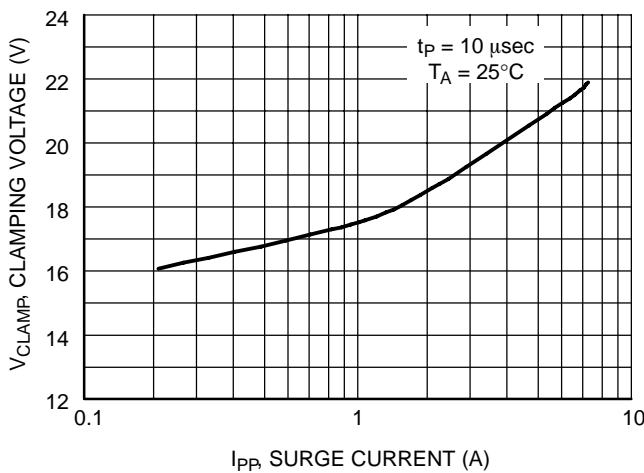

Figure 3. Clamping Voltage vs. Peak Pulse Current (10 μsec Square Wave Pulse)
1. Non-repetitive current pulse per Figure 3.